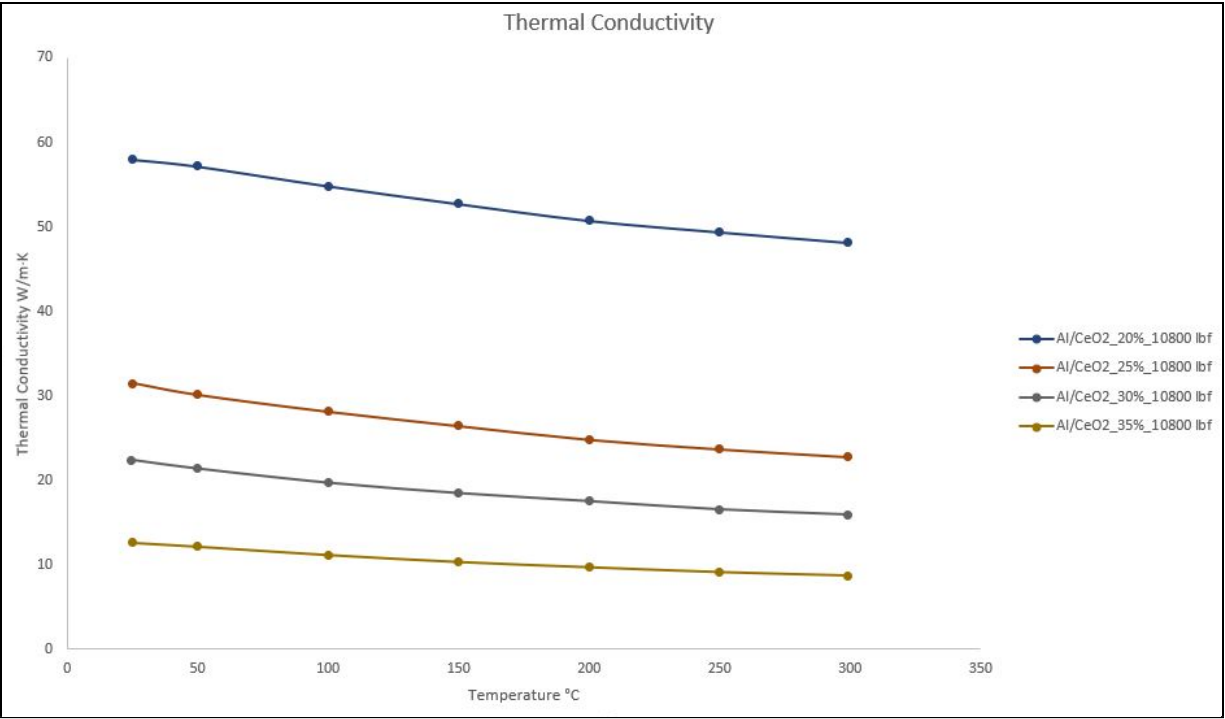

Figure 49. Thermal conductivity graph created in Excel.
- Create a data table in Excel using the mean temperature and thermal conductivity data for the samples (as shown in Figure 49).